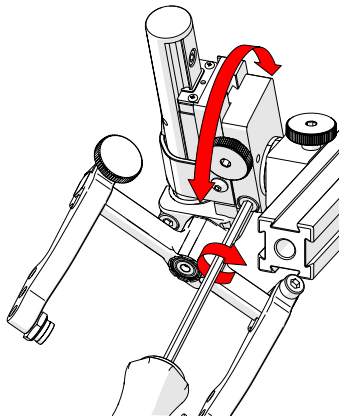

Fig. 119 - Rotate to position
- Rotate the main body of the probe holder until it is at the desired angle (Fig. 119).
- Tighten the longitudinal adjustment screw (Fig. 119).